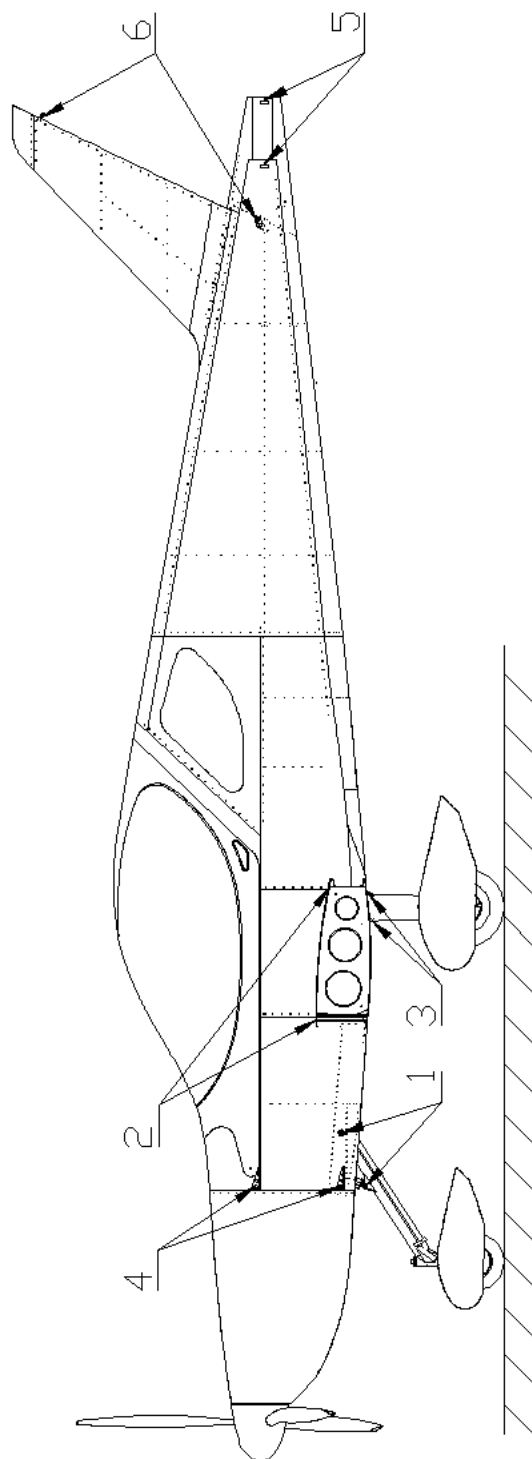

Fig. 3-1
The front part of the fuselage consists of bulkheads No.1 to 7 (see Fig. 3-1). Cockpit with adjustable seats is located between bulkheads No.1 and 7. The luggage compartment is located behind the seats. Center section of wing (2) consists from the main spar attachments located as bulkheads No.3 and the rear spar attachments located on the bulkhead No.5, main landing gear attachment points (3) are located behind main center wing spar, top engine mount attachment points (4) are located on the cross channel behind bulkhead No.1, bottom attachment points are located on the cockpit floor and connected with reinforcement channels under the floor.
The rear part of fuselage is located between bulkheads No.8 and No.14 (see Fig. 3-1). It is a semimonocoque structure formed by stiffeners and aluminum skins. The rear part of fuselage is of elliptic section covered by aluminum sheets. The fin with rudder attachments (5) and stabilizer attachments (6) is an integral part of the rear part of the fuselage. The bulkheads No.13 and 14 form the stabilizer attachment points. The tail wheel landing gear is attached to the rear part of fuselage.
The cockpit (see Fig. 3-1) is located in the front part of the fuselage between the bulkheads No.1 and 5. The instrument panel is located on the bulkhead No.2. In the middle of the cockpit there is a middle console with control elements. The cockpit is equipped with two adjustable seats.